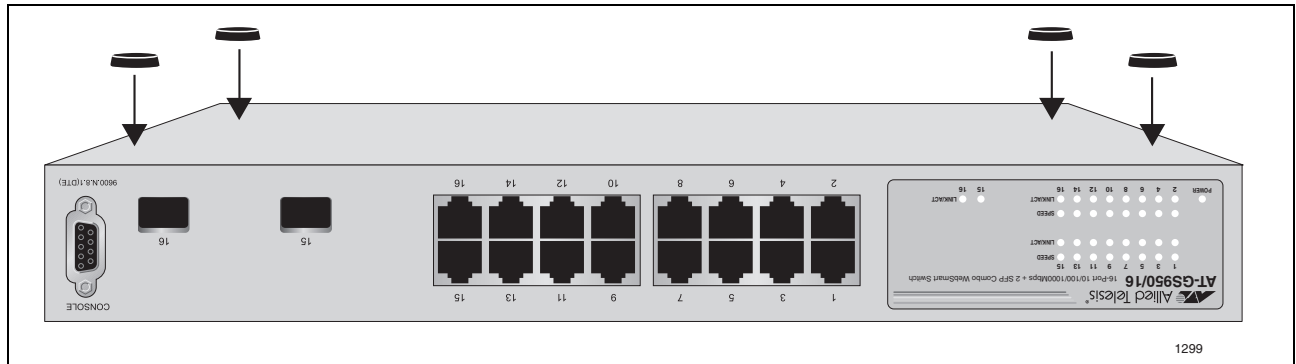

Figure 6. Attaching the Rubber Feet
2. Turn the switch over and attach the four rubber feet to the bottom of the switch as shown in Figure 6.